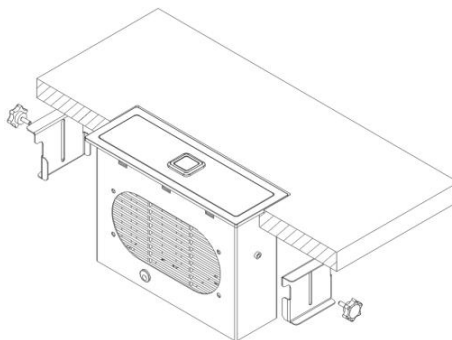

Fig. 6 – Reattach Mounting Brackets
- 5.6 Reattach the two (2) Mounting Brackets to the unit by screwing in the Thumb Screws, as shown in Fig. 6.